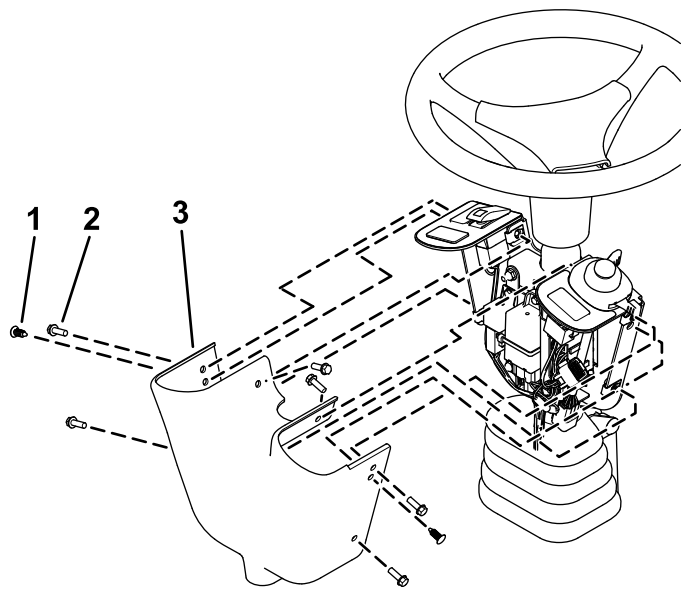

Figure 10
14. Install the control cover to the switch mount using 2 push rivets and 6 hex-head screws (1/4 x 3/4 inch) as shown in Figure 10.